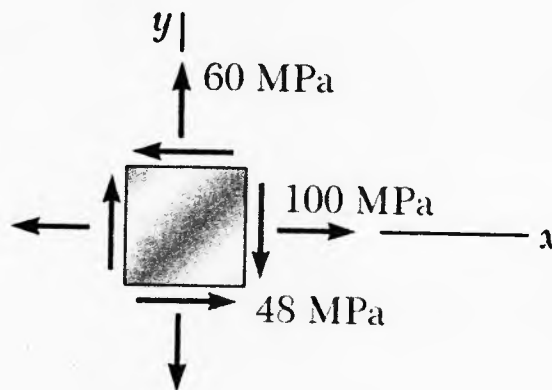

Figure 10
- b. For the state of plane stress shown in figure 10, determine (i) the principal planes and the principal stresses, (ii) the stress components exerted on the element obtained by rotating the given element counterclockwise through  $30^\circ$ . [6]